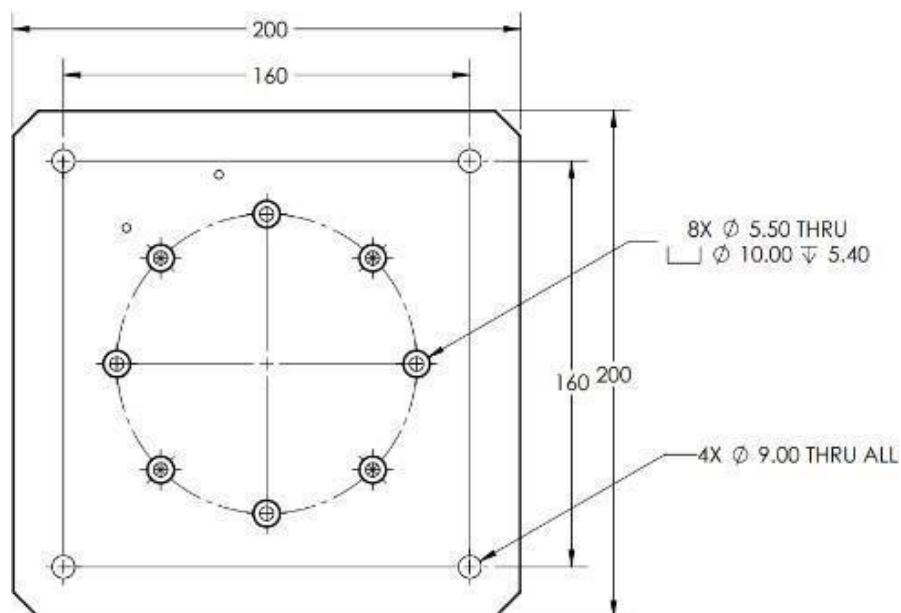

Figure 8: Mounting Specifications
STEP 3: For accurate installation, make four 9 mm holes on the base, spaced 160 mm apart from each other as shown in Figure 8: Mounting Specification